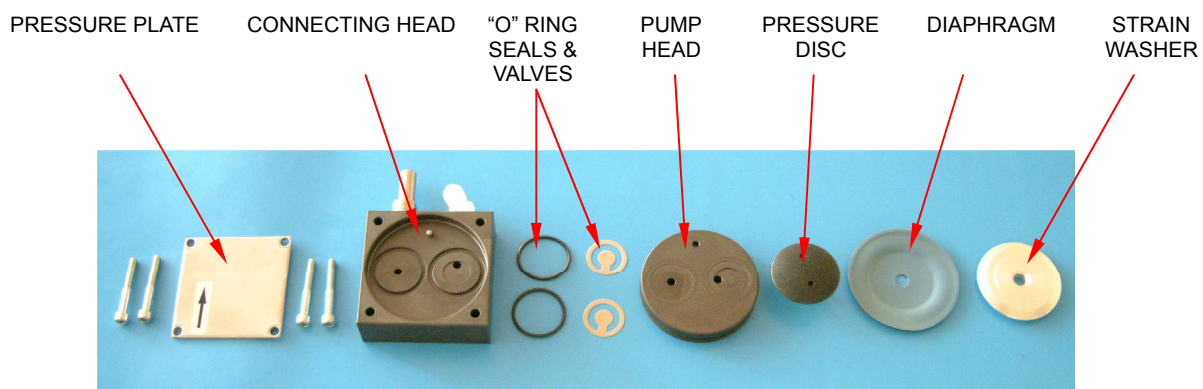

Fig 5
5.2 Ensure that all items are correct (Fig 5).
5.3 Assemble Strain Washer, Diaphragm and Pressure Disc (Fig 5).